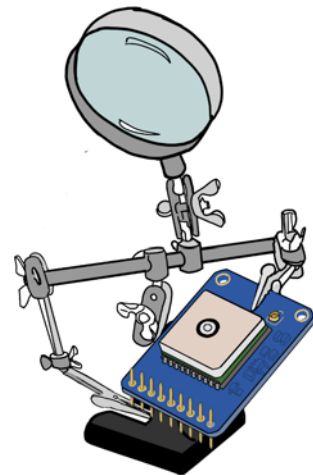

Figure 7.14 Secure your components before soldering. A third hand is a convenient tool for this.
- 1 Before you begin, set up your workspace using a third hand (figure 7.14) or some other method for securing your work and leaving your hands free—slotting header pins into a breadboard and positioning the board in place on top is also an option. Have the tools and parts you anticipate needing at the ready so you're not flailing around with a hot soldering iron later.